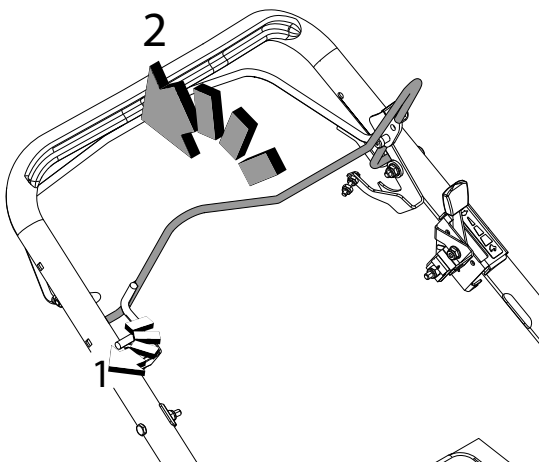

Figure 4-4. Blade Control Bar Engagement
2. Push and hold the blade control lock lever forward to release the blade control bar. See Figure 4-4.